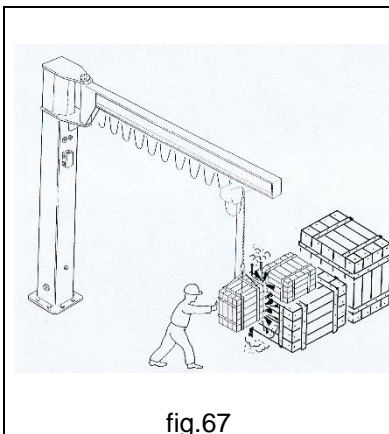

fig.67
- ALWAYS ensure, before maneuvering, that the rotation of the arm is free from obstacles and that during lifting, travelling and rotation, the load does not meet obstacles (fig. 67).